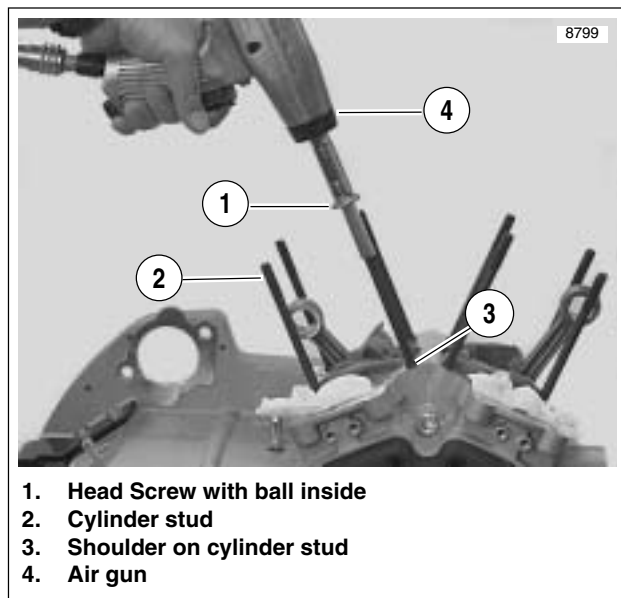

Figure 3-154. Cylinder Studs
11. See Figure 3-154. Install cylinder studs.